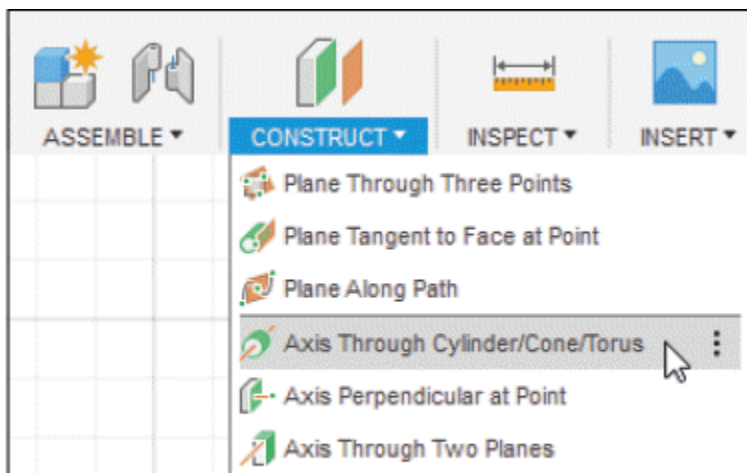
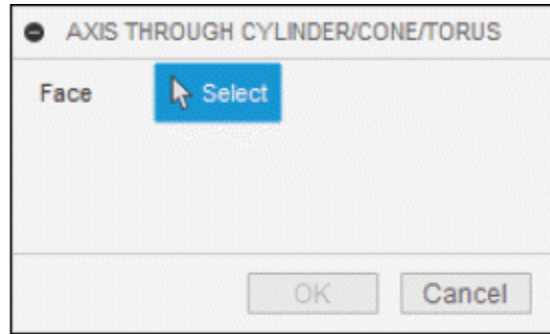

Figure-101. Axis Through Cylinder Cone Torus tool
Figure-102. AXIS THROUGH CYLINDER CONE TORUS dialog box
- Click on the **Axis Through Cylinder/Cone/Torus** tool of **CONSTRUCT** drop-down from **Toolbar**; refer to Figure-101. The **AXIS THROUGH CYLINDER/CONE/TORUS** dialog box will be displayed; refer to Figure-102.